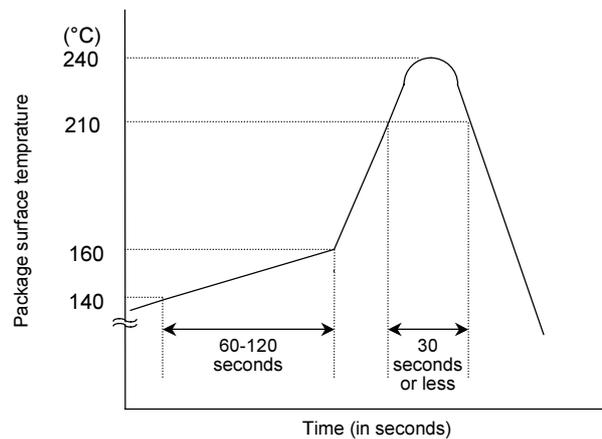
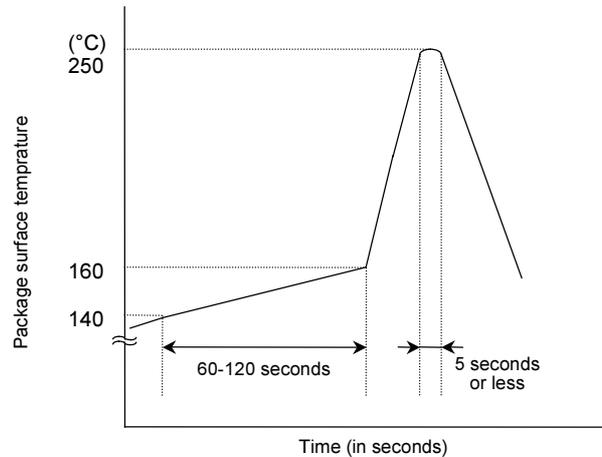

Figure 3.8 Sample Temperature Profile for Infrared or Hot Air Reflow
Figure 3.9 Sample Temperature Profile for Solder Flow
- Refer to Figure 3.8 for an example of a good temperature profile for infrared or hot air reflow.
(3) Using hot air reflow
- For an example of a recommended temperature profile, refer to Figure 3.8 above.
(4) Using solder flow
- Figure 3.9 shows an example of a recommended temperature profile for surface-mount packages using solder flow.